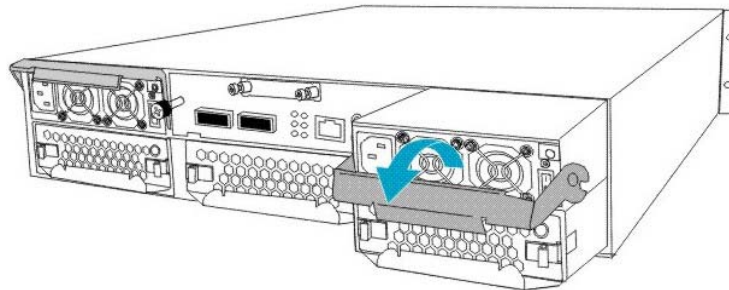

Figure 5-11: Removing the PSU Module
Step 4. Remove the PSU by grabbing the extraction handle and pulling the handle downwards. The extraction handle should gracefully disconnect the PSU from the backplane connectors. Once dislodged, gently pull the PSU out of the subsystem. If the subsystem is mounted in a rackmount rack, use another hand to support its weight when removing the module. (See **Figure 5-11**)